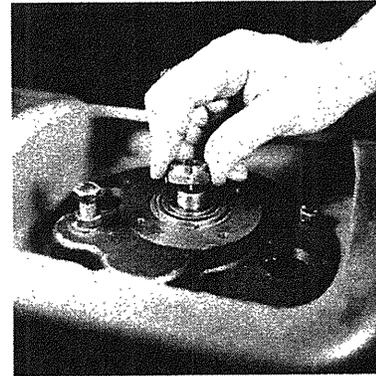

Fig. 3-37
- BB. Install the stop nut on the planetary shaft (Fig. 3-37) and draw it tight. THIS IS A LEFT HAND THREAD.